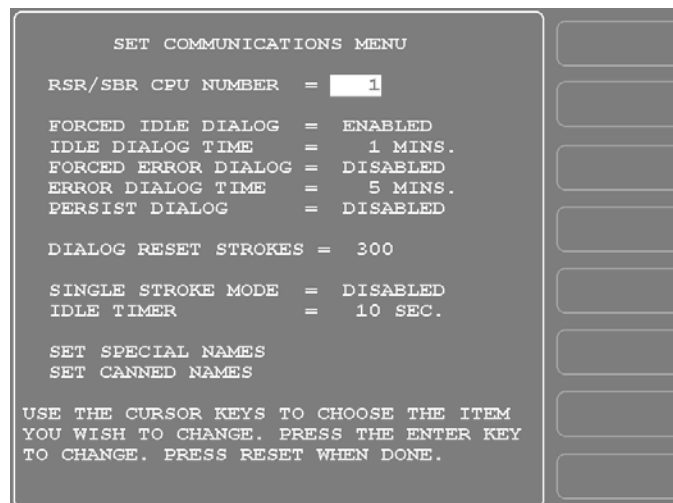

Figure 5. Set Communications Menu
- Highlight the “SETUP DATA COMMS” menu item, using the Up (▲) or Down (▼) cursor key, and press ENTER. The Set Communications Menu (see Figure 5) displays: